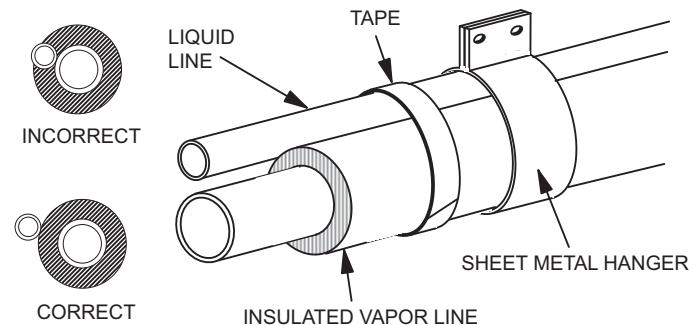

FIGURE 1: Refrigerant Line Support
- Support all refrigerant lines at minimum intervals with suitable hangers and brackets. Tape and suspend the refrigerant lines as shown in Figure 1. **DO NOT ALLOW METAL-TO-METAL CONTACT.**